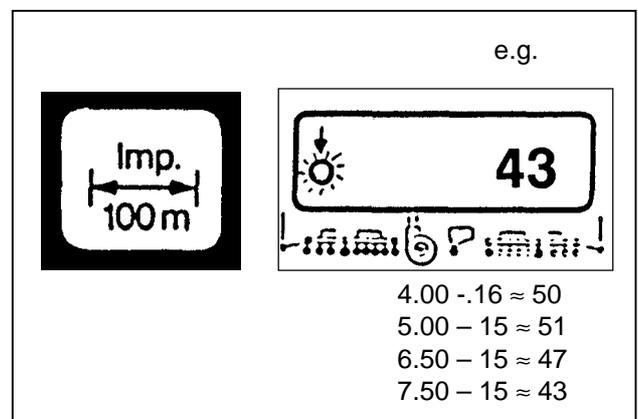

Fig.3
4.2.3 Key "Impulses/100 m" (Fig.3)